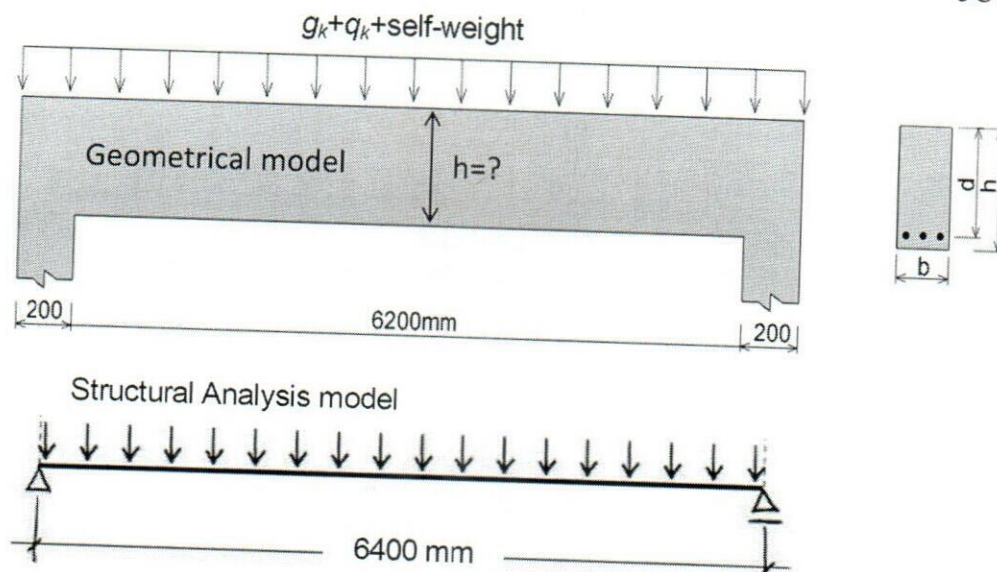

Figure Q2
a) Figure Q2 shows a simply supported reinforced concrete beam with a clear span of 6.2 m. The beam section is rectangular with a depth h and width b . The beam carries a permanent load g_k of 15 kN/m and a variable load q_k of 12 kN/m, in addition to its self-weight. The characteristic specific weight of the concrete can be assumed equal to 25 kN/m³. The concrete class is C35/45 and the reinforcement is S500. The maximum aggregate size d_g is 14 mm, and the concrete cover c is 40 mm. In the following, you are asked to design the reinforced concrete beam in accordance with EN 1992-1-1.